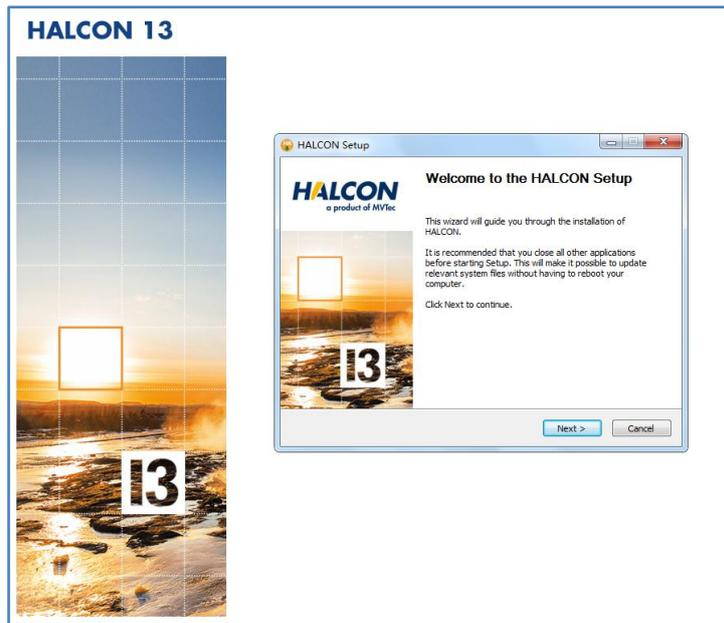

Fig. 21
1. Double click installation file “halcon-13.0-windows.exe”, and the installing guide interface is shown in Figure 21; click “Next” button;